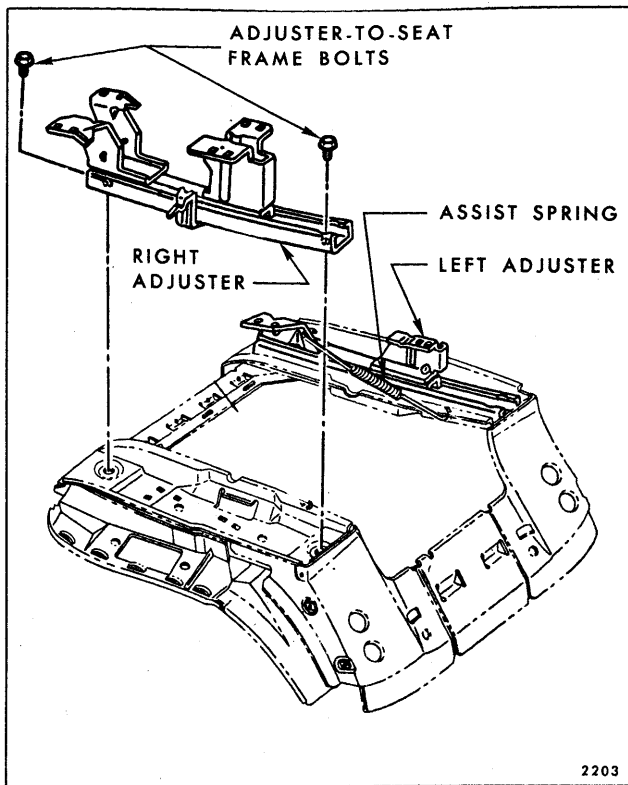

Fig. 10-34—Manual Bucket Seat Adjuster Removal
2. If replacing inboard adjuster, remove assist spring (Fig. 10-34).
3. Operate adjuster so that both front and rear adjuster-to-seat frame attaching bolts (Fig. 10-34) are accessible; then, remove attaching bolts and remove adjuster from seat assembly.